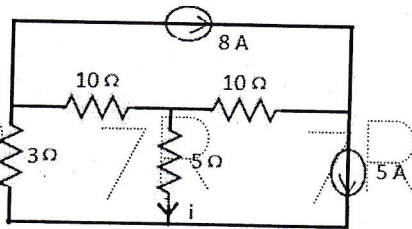

Figure: 1
- b) Find the current 'i' in the circuit shown in the figure 1.